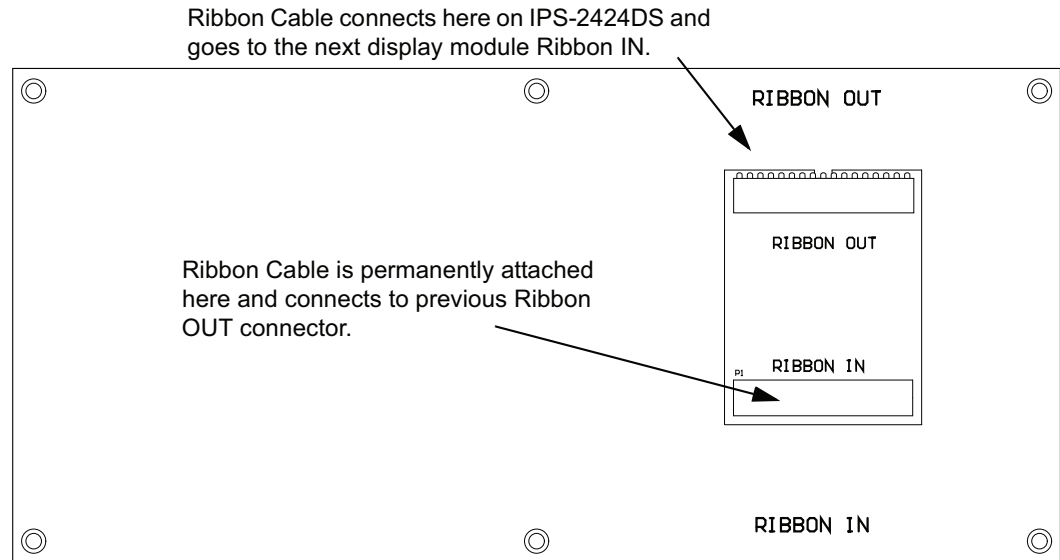

Figure 8 IPS-2424DS Cable Connections
2. Disconnect main and standby power and connect the IPS-2424DS as shown in Figure 8.